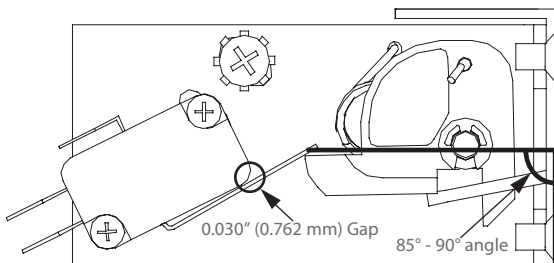

Figure 33: Primary Switch Adjustment
Use the following procedure to adjust the primary, secondary, and monitor switches. The secondary switch is located on the left side hinge assembly and the monitor switch is located on the right side hinge assembly. The primary switch is located on the upper-left corner of the oven and utilizes an actuator (attached to the door) and toggle assembly (attached to the chassis) to engage (Figure 33). See page A-8 of the Appendix for switch assembly detail.
- a. Visually inspect the latch toggle position and verify it is angled at no less than 85° and no more than 90° in reference to the front flange (oven face). See Figure 33.